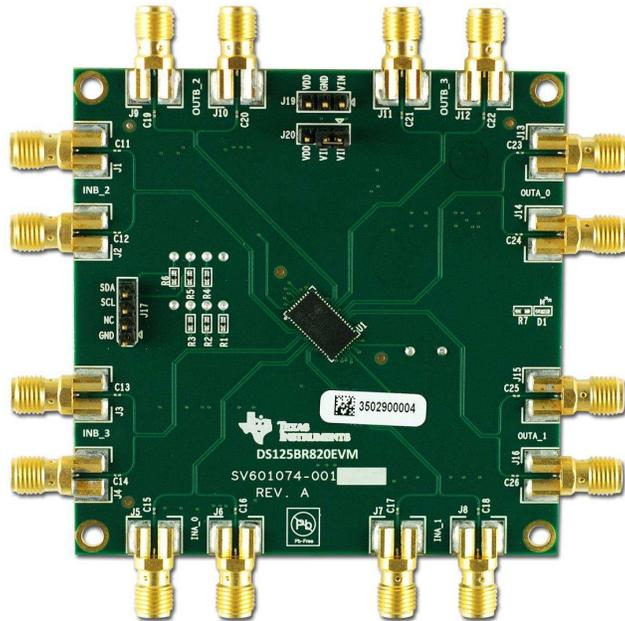

Figure 1-1. DS125BR820EVM Front
- For 3.3 V mode:  $V_{IH}$  tied to  $V_{IN}$  (see Figure 1-1)
- For 2.5 V mode:  $V_{IH}$  tied to  $V_{DD}$  (see Figure 1-1)